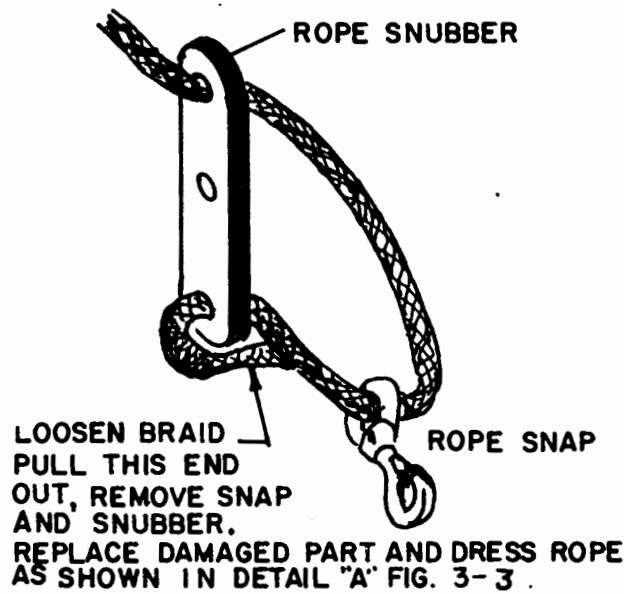

Figure 3-4 Replacing Rope Snubber
(1) Cut rope 10" from lower end as shown in Figure 3-4.
(2) Remove rope snap and rope snubber.
(3) Replace defective rope snubber and reinsert rope snap.
(4) Insert rope thru opposite end of rope snubber and fasten by opening braid of rope, insert end a distance of at least 8", pull tight.